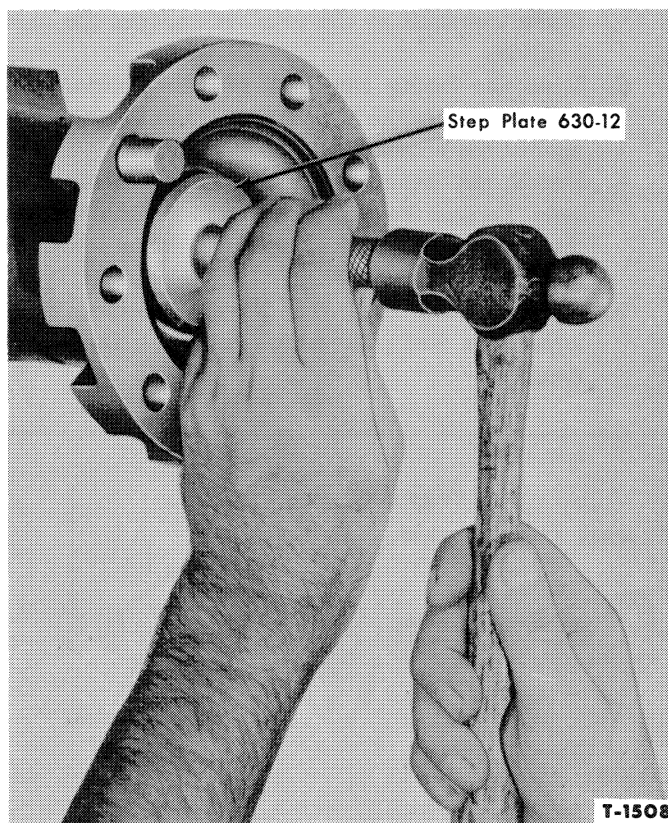

Figure 9—Installing Rear Axle Housing Oil Seal
4. Drive in a new oil seal, lip inward, using Step Plate 630-12, Figure 9. Coat the contact surface of the seal with a small amount of Lubriplate or equivalent.